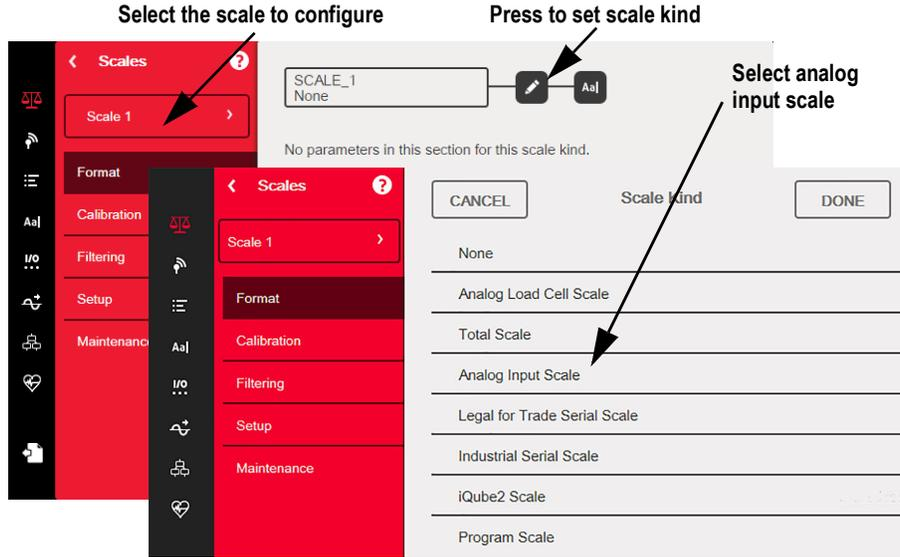

Figure 1. Select Analog Input Type and Kind
2. Select the scale (1–8 has the analog input card installed) to be configured from the drop-down menu in Figure 1.